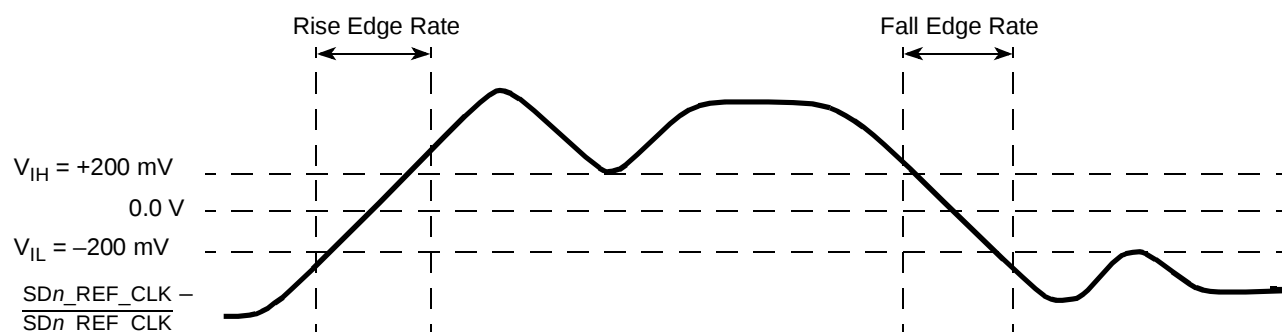

Figure 50. Differential Measurement Points for Rise and Fall Time
- Measured from -200 mV to +200 mV on the differential waveform (derived from SDn_REF_CLK minus $\overline{\text{SDn_REF_CLK}}$). The signal must be monotonic through the measurement region for rise and fall time. The 400 mV measurement window is centered on the differential zero crossing. See Figure 50.